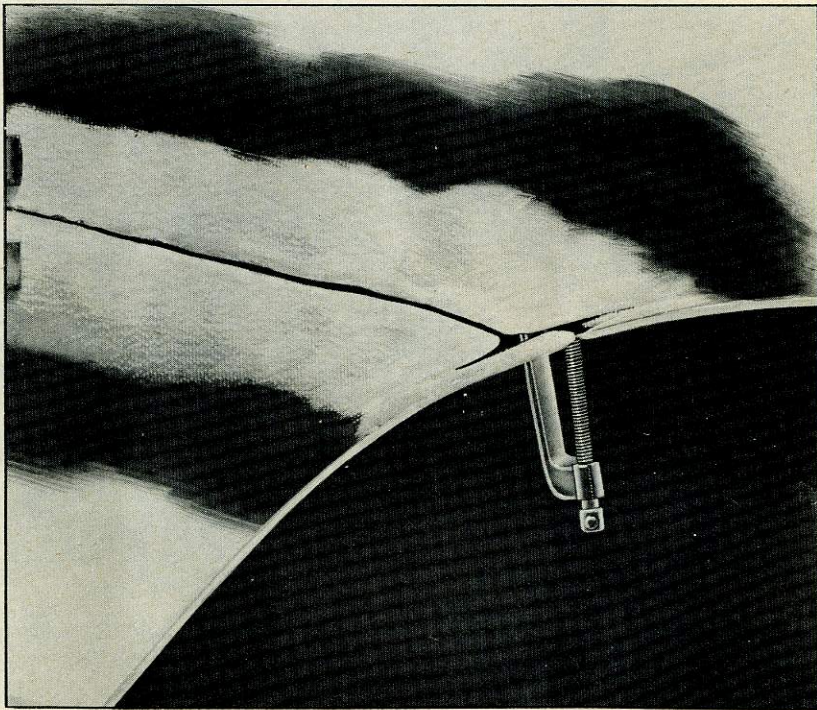

Figure 9
5. Use "C" clamps to align panel portions allowing approximately  $\frac{1}{8}$ " between the panels or as necessary to provide proper alignment of panels (fig. 9).